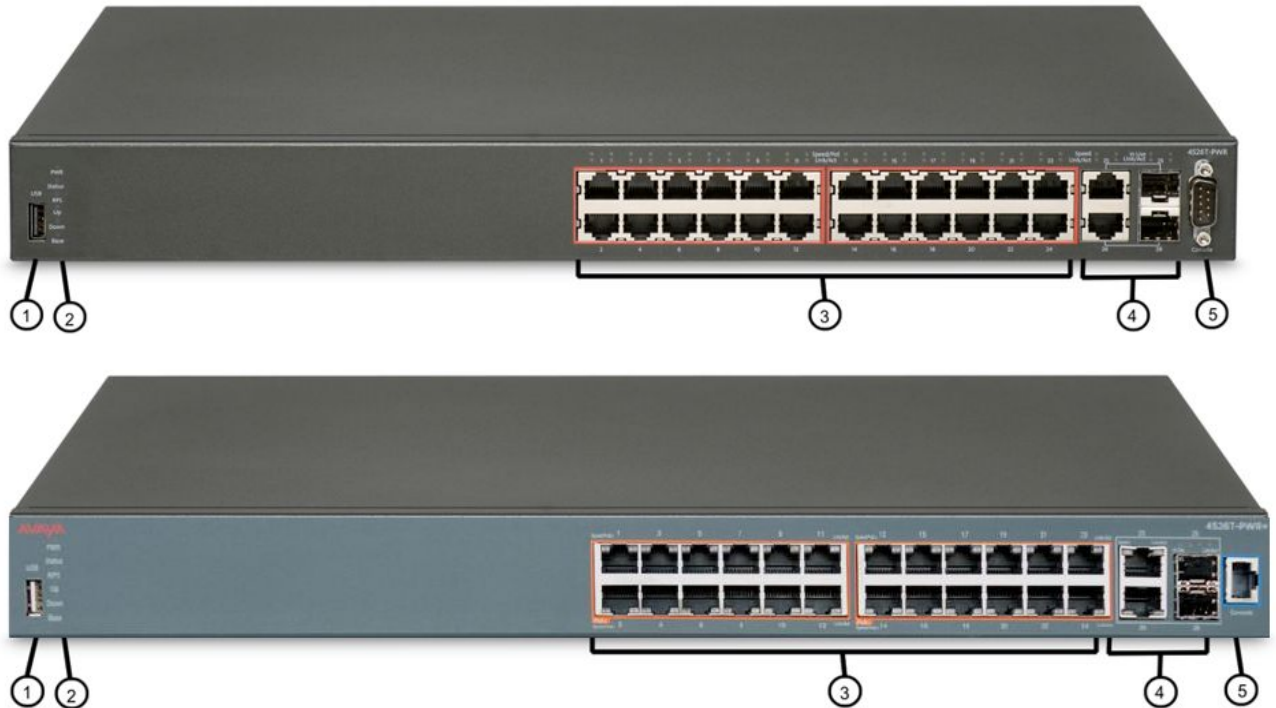

Figure 13: Avaya Ethernet Routing Switch 4526T-PWR and 4526T-PWR+
- Figure 13: Avaya Ethernet Routing Switch 4526T-PWR and 4526T-PWR+ on page 49